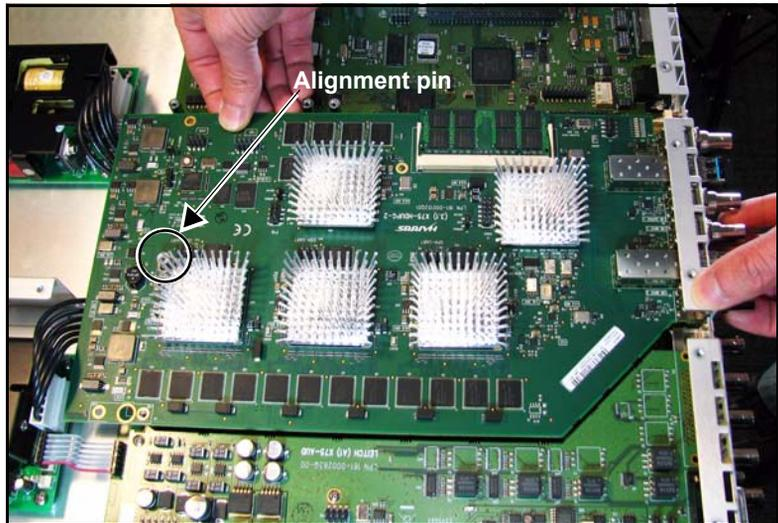
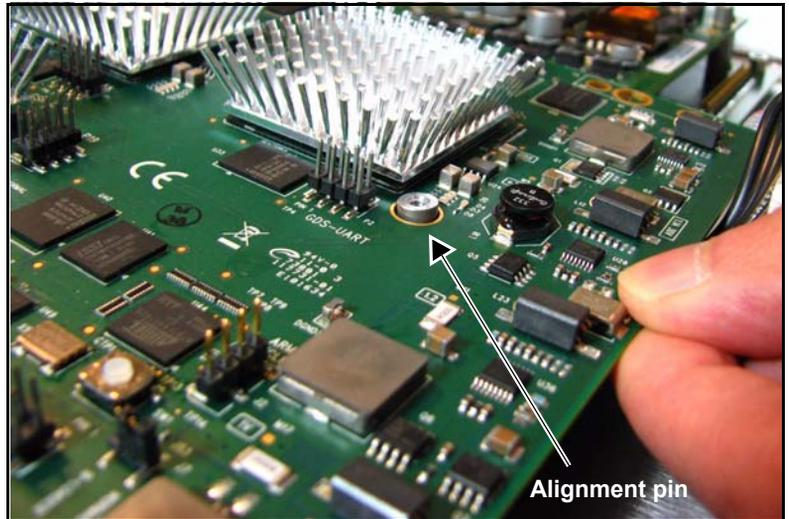

Figure C-17. Positioning the X85 Module
Figure C-18. Alignment Pin for the X85 Module
5. Position the X85 above the stackers, and then carefully insert the main board alignment pin into the alignment hole at the front of the X85 module (see Figure C-17 and Figure C-18).